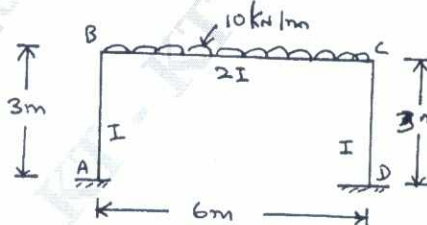

Fig. Q7
- 7 Analyze the portal frame as shown in Fig. Q7 by stiffness matrix method and draw BMD. (20 Marks)